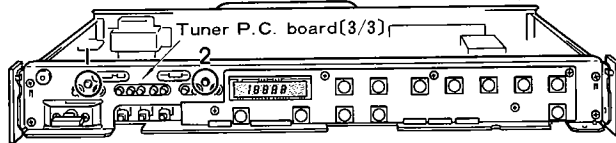

Fig. 4
- b. Remove plastic rivets ① and ② in Fig. 4 and then remove the tuner p.c. board [3/3].